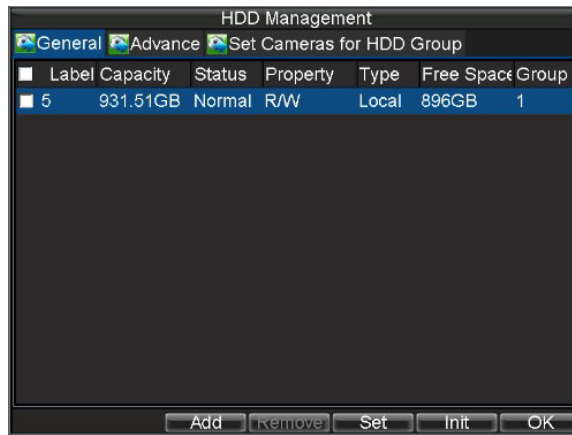

Figure8. HDD Management Menu
1. Click Menu > HDD to access the HDD Management dialog box, shown in Figure 8.